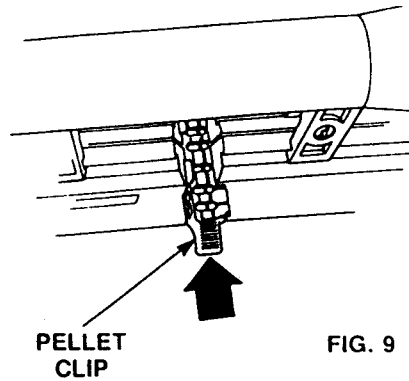

FIG. 9
- Replace the pellet clip lining up one of the pellet chambers with the barrel chamber, (make sure the pellet clip handle is on the right side of the gun). (Fig. 9)